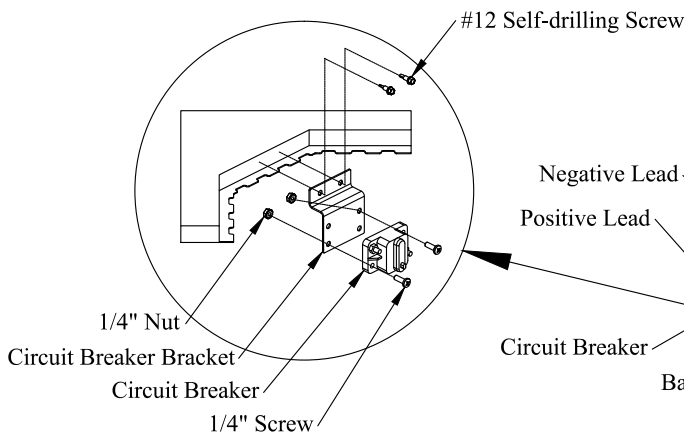

Figure 15: Circuit breaker bracket.
1. **Install** the circuit breaker on the circuit breaker bracket with 1/4" screws and nuts (Figure 15).
2. **Install** the circuit breaker bracket on the driver side fender, inside the engine compartment away from moving parts (Figure 15). Use two (2) supplied #12 self-drilling screws. Leave room for the power cables to be installed and the circuit breaker to be reset.